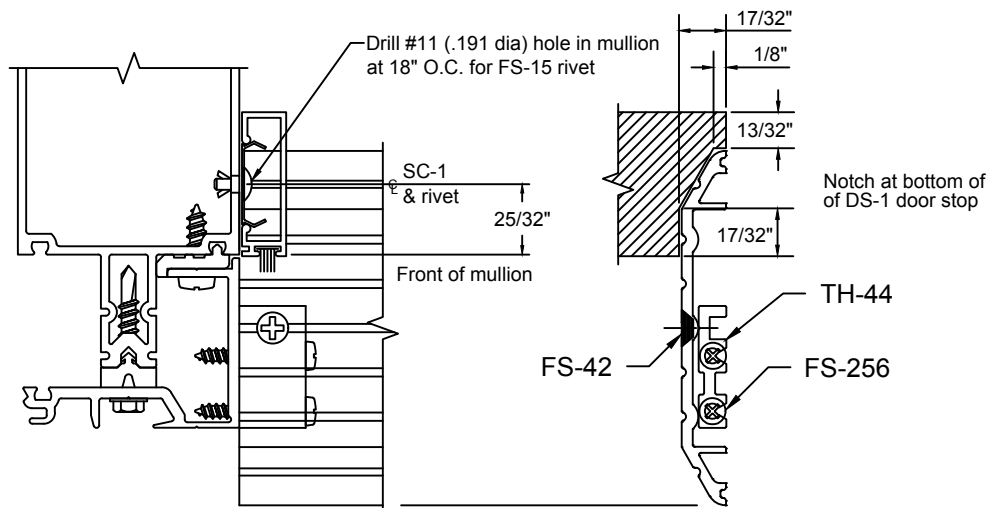

Figure 40
- C.3.5 Bed threshold in sealant, attaching to TH-44 clips with FS-42 #12 x 1/2" Phillips Flat Head screws. Marry threshold seal with subframe and main system seal. SEE FIGURE 40, page 38.
- C.3.6 Drill #11, .191 diameter holes in curtain wall mullions for FS-15 rivets. Install door stops onto mullion with SC-1 clips at 18" O.C. SEE FIGURE 40, page 38. Vertical stops run through.